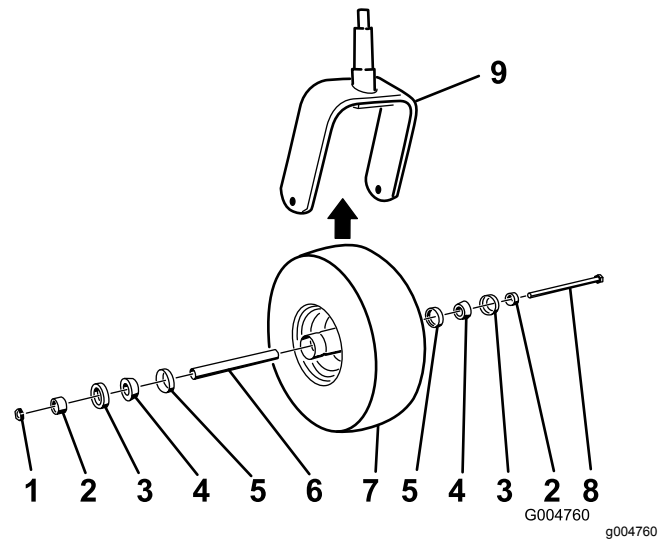

Figure 74
5. Assemble the caster wheel by pushing the cone bearings and seals, packed with grease, into the wheel hub, positioned as shown in Figure 74.
2. Remove the locknut from the bolt holding the caster-wheel assembly between the caster fork (Figure 74).